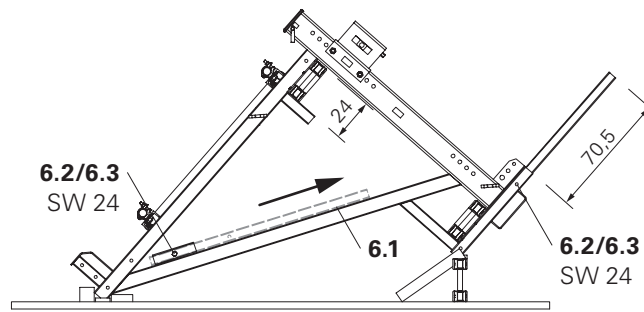

Fig. A1.15
4. Proceed in the same way with the second Guardrail Post CB 160. (Fig. A1.15 or A1.16)
Arrangement of the girder below: top hole in the guardrail post. (Fig. A1.15)